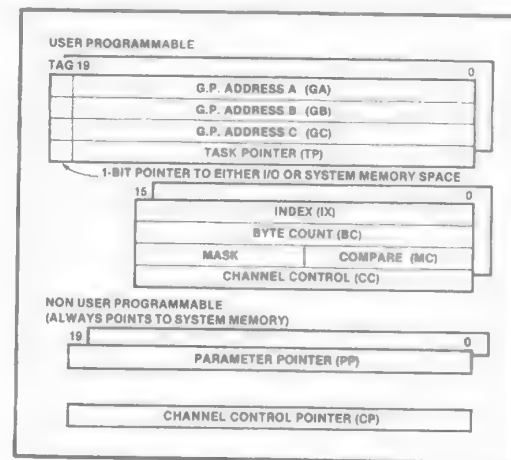

Figure 6. Register Model
The 8089 maintains separate registers for its two I/O channels as well as some common registers (see Figure 6). There are sufficient registers for each channel to sustain its own DMA transfers, and process its own instruction stream. The basic DMA pointer registers (GA, GB — 20 bits each), can point to either the system bus or local bus, DMA source or destination, and can be autoincremented. A third register set (GC) can be used to allow translation during the DMA process through a lookup table it points to. Additionally, registers are provided for a masked compare during the data transfer and can be set up to act as one of the termination conditions. Other registers are also provided. Many of these registers can be used as general purpose registers during program execution, when the IOP is not performing DMA cycles.